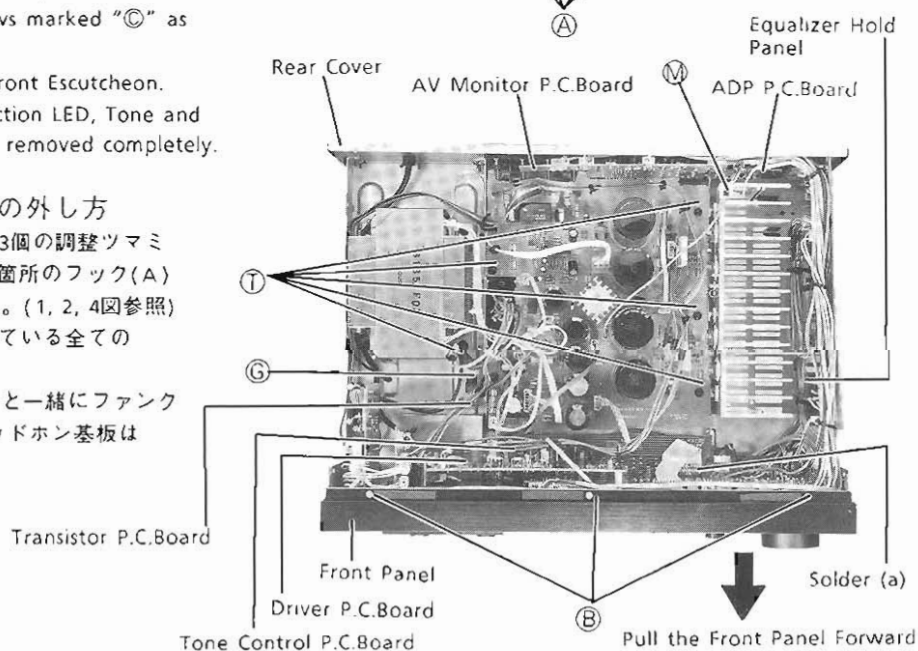

Figure 3
- (2) Remove three screws marked "B" as shown in Figure 3.
- (3) The Front Panel can be removed by pulling it forward. But when the panel is engaged tightly, pull the panel end little by little, and the panel will be removed easily.
- (1) Removal a screw marked "E" as shown in Figure 3.
(2) Disconnect all wires from the Transistor P. C. Board.